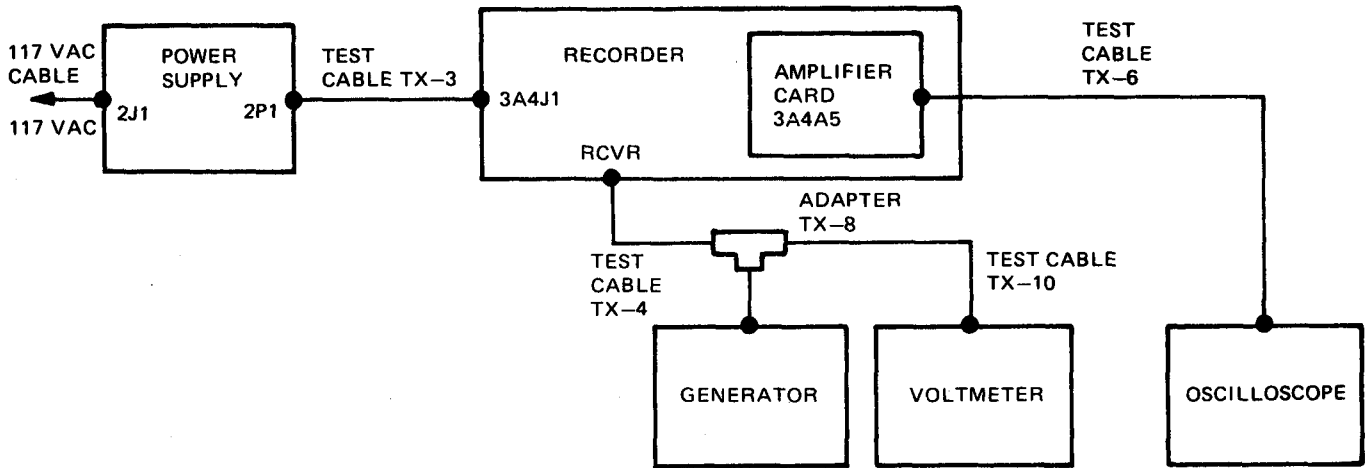

Figure 3-9. Channels, Equipment Setup
- (1) Remove recorder housing, refer to paragraph 3-25.
- (2) Connect equipment as shown in figure 3-9.
- (3) Demagnetize audio and erase heads, paragraph 3-4.